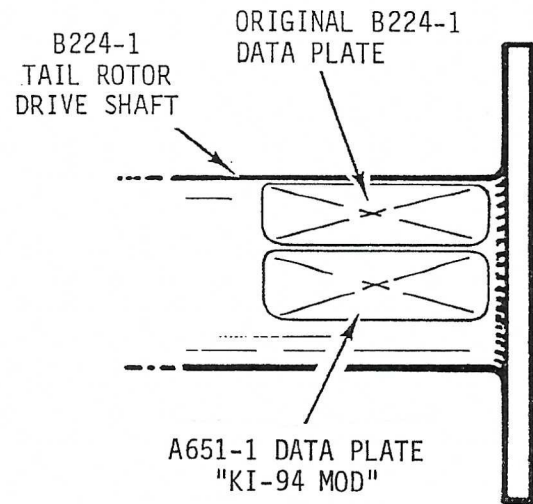

FIGURE 3
5. Install A651-1 "KI-94 MOD" data plate adjacent to tail rotor drive shaft data plate as shown in Figure 3.